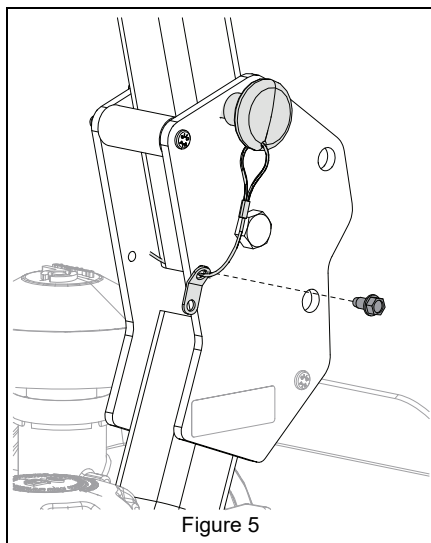

Figure 5
9. Secure lanyard to ROPS using tapping screws from literature pack. See Figure 5.